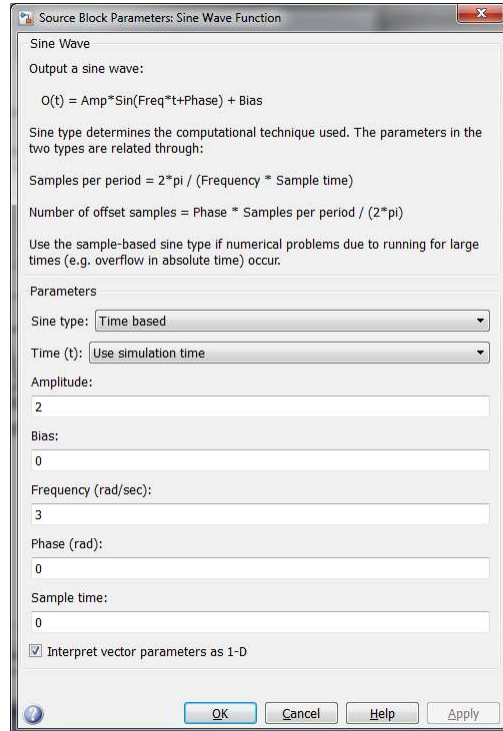

Figure 1.10: Parameters for the **Sine Wave** block. Select the amplitude and frequency desired.
- Double-click the **Sine Wave** block and change the frequency to 3 rad/s and the amplitude to 2. [See Figure 1.10] Set the time dropdown menu to **Use Simulation Time**.